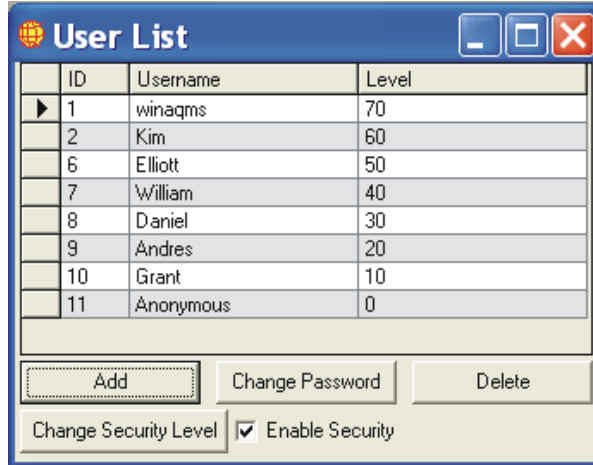

Figure 20 User List Window
WinAQMS Mini DAS can be set to require a username and password to be entered before access to the system is enabled. Users in WinAQMS Mini DAS have a username, password and a security level. Usernames and Passwords can be up to 32 characters in length and are case-sensitive. Figure 20 below shows the User List options when a user with the highest security level (70) has logged into the system.